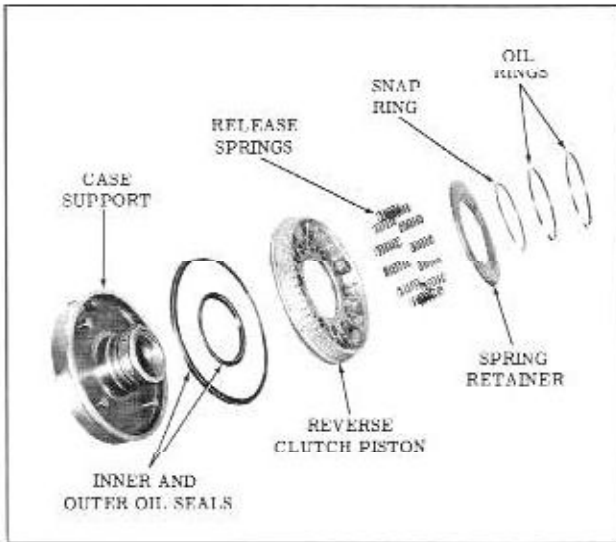

Fig. 3-59 Reverse Clutch Assembly
4. Remove the spring retainer, 12 reverse clutch release springs, and reverse clutch piston. (Fig. 3-59)